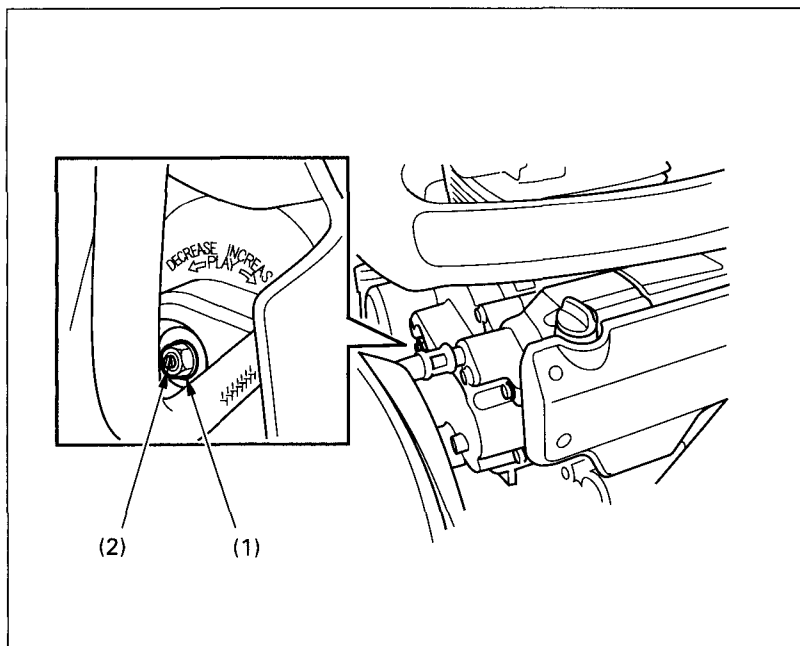

Fig. 4-17 (1) Lock nut
1. Make sure the ignition switch is OFF (O).
2. Loosen the lock nut (Fig. 4-17), and turn the clutch adjuster (2) counterclockwise until you feel slight resistance.